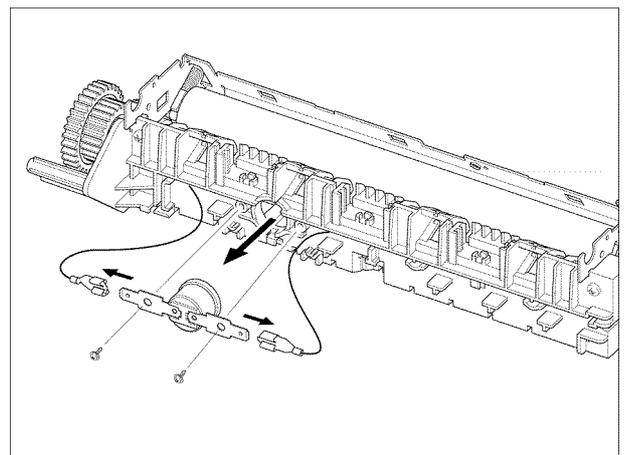

Figure 7
8. Disconnect the thermostat harnesses. Remove 2 screws, then the thermostat, Figure 7.